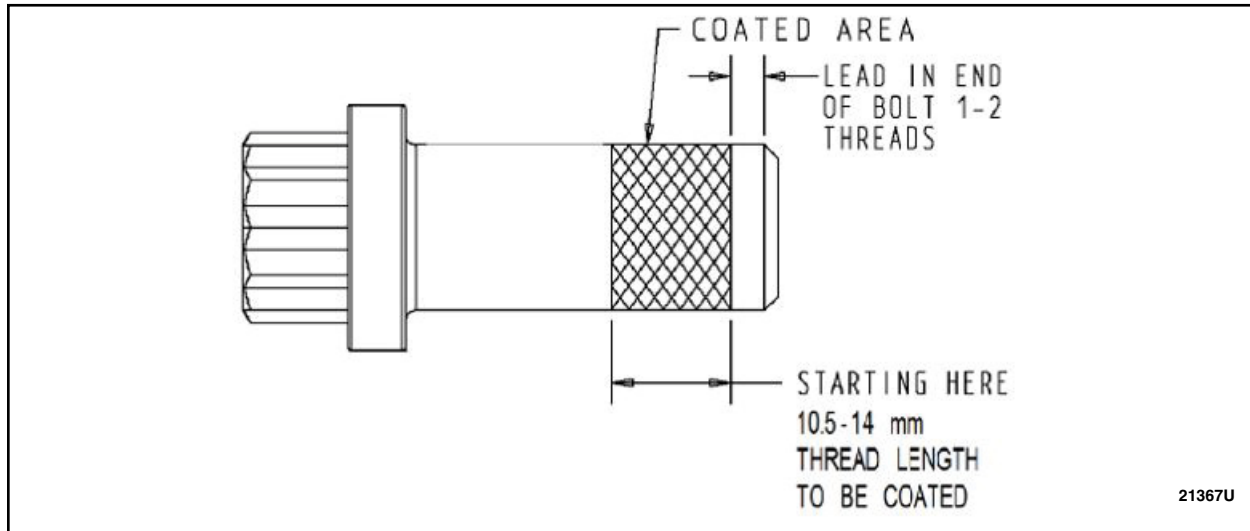

FIGURE 10
15. Inspect the original driveshaft flange to pinion flange bolts for rust in the threads and replace if rusted or damaged. Clean threads of the original driveshaft flange to pinion flange bolts with a wire brush and coat the threads with LOCTITE 243 Blue Medium Strength Threadlocker or equivalent. See Figure 10.